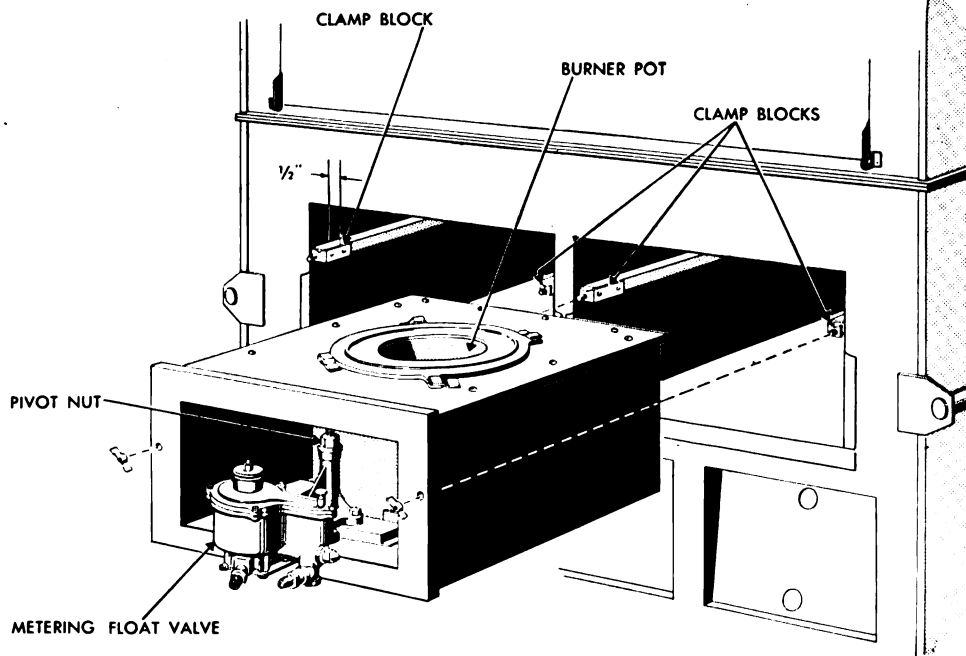

Figure 69. Method of installing burners, pot type (65-A-4910), in oven, bake, field, M1942.
(3) See section XI, appendix, for a list of parts for mechanical maintenance.
b. INSTALLATION (see figs. 69 and 70). (1) Attach the clamp blocks to the edges of the burner rails. (See fig. 69.) Place these blocks about one-half inch from the front, making sure that the edge of the pan enters the slot in the block full depth. Fasten each block with the two square head screws provided.
(2) Slide one burner unit into each burner compartment of the oven, so that the studs on the clamp blocks pass through the holes in the burner units. Clamp each burner unit with the two wing nuts. The joint around the front of the oven and the burner unit must be air tight, as any leak around this joint will interfere with combustion. It may be necessary to calk the crevices between the